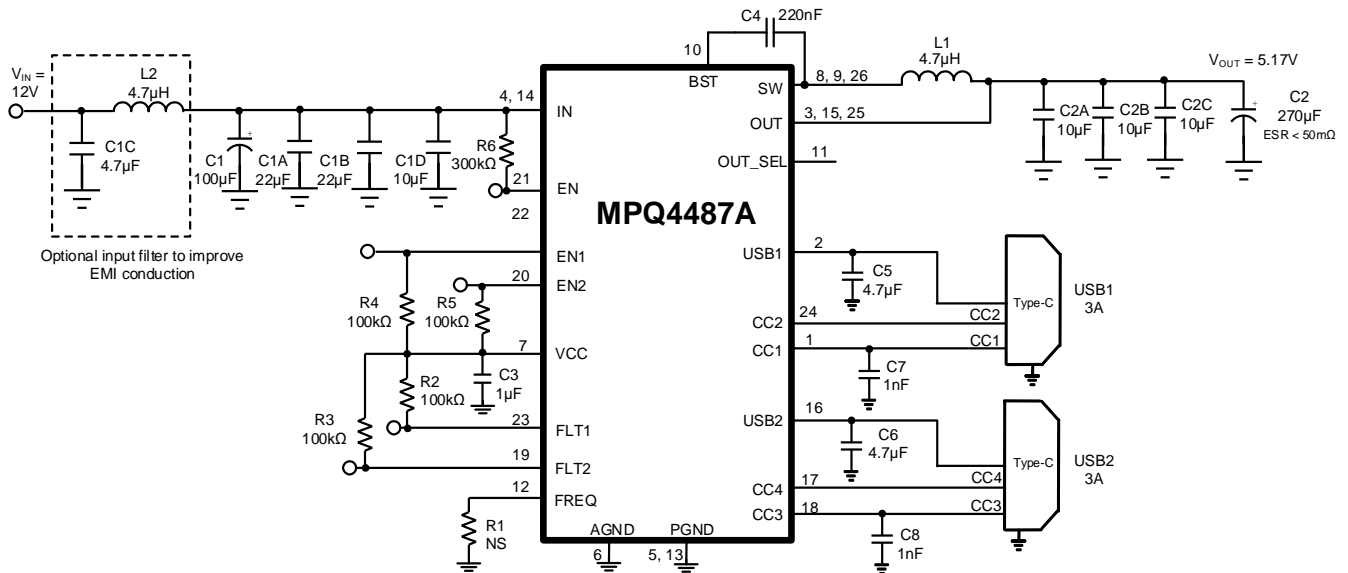

Figure 12: Dual USB Type-C 5V/3A DFP Ports (14)
13) The recommended layout is based on the Typical Application Circuits (see Figure 12, Figure 13, and Figure 14 on page 25 and page 26).